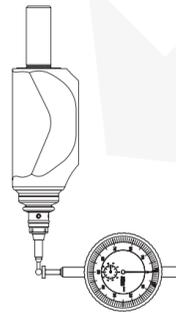

Fig. 4
---Set the indicator to zero (Fig. 4)